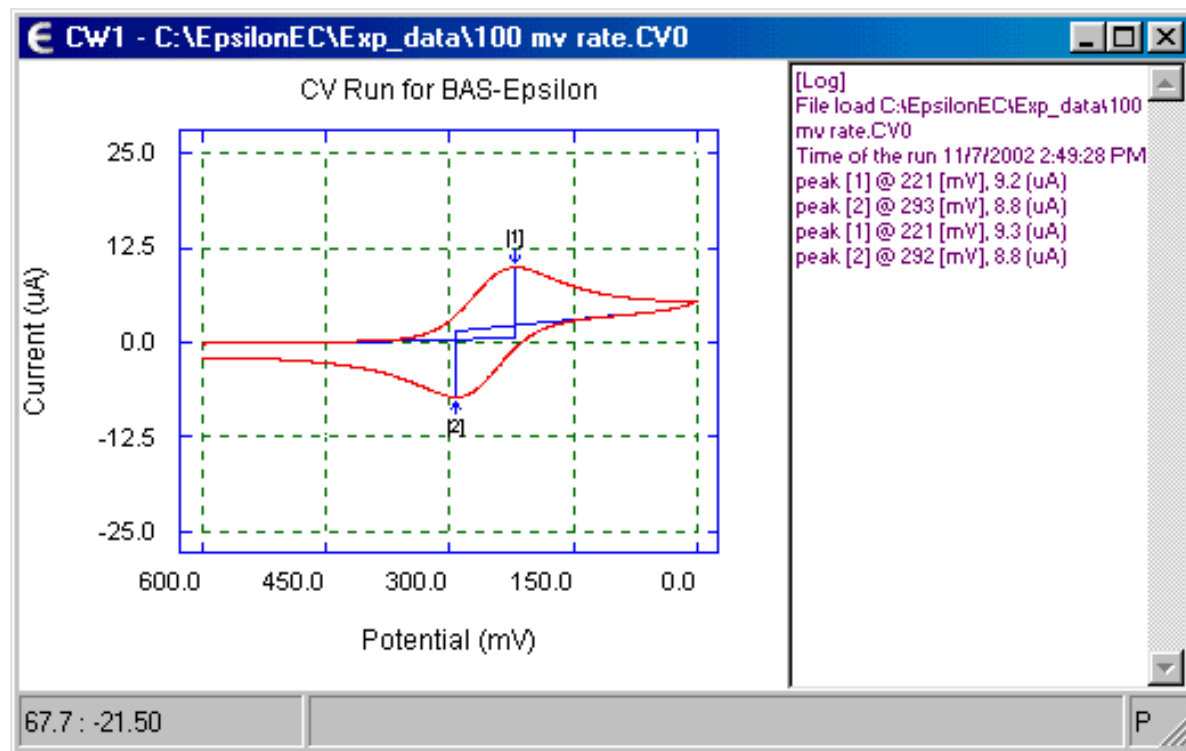

Figure 4. Cyclic Voltammetry graph.
- After the experiment has been run, the voltammogram will be displayed (**Figure 4**). Note the information about the experiment and the peak parameters on the right side of the graph (this can be removed by clicking **Text Info (Right Column)** in the **Graph-Display** menu or the pop-up menu).